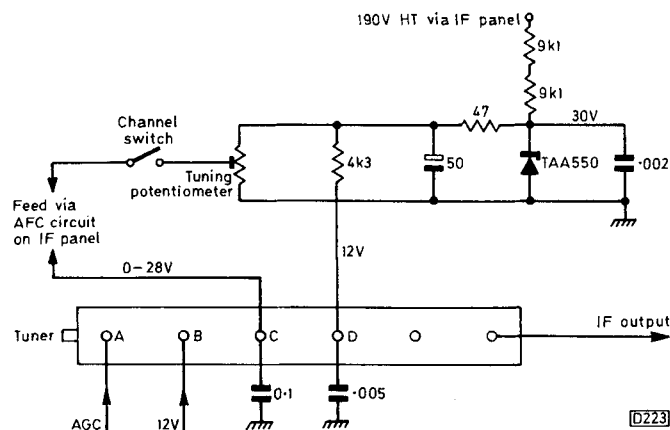

Fig. 1: Varicap tuner supplies, Pye 693/697 chassis. There are six channel selector switches/tuning potentiometers.
Recheck the speaker in the set. It now read  $25\Omega$ . Oh dear, I couldn't have connected the prods properly in the first place. Reconnecting the clips to their original place we turned our attention to the audio panel (Fig. 1).
*Fig. 1: The audio circuit used in some early Decca single-standard colour sets (20 series chassis). Most of the rest of the circuitry is similar to later versions of the Decca CTV25 series, though a different set of component reference numbers was used. Sets using this chassis are the CS2225, CS2227 and CS2520. Another difference is the use of an MC1351P intercarrier sound i.c.*